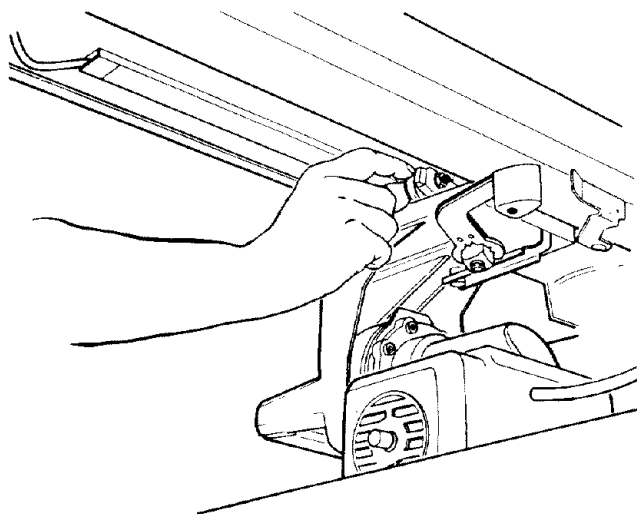

Fig. 91
12. Pinch the *front carriage bearing* with your fingers as tightly as possible while you pull the *motor* forward with the other hand. Try to keep the *carriage bearing* from turning. (Figure 91)